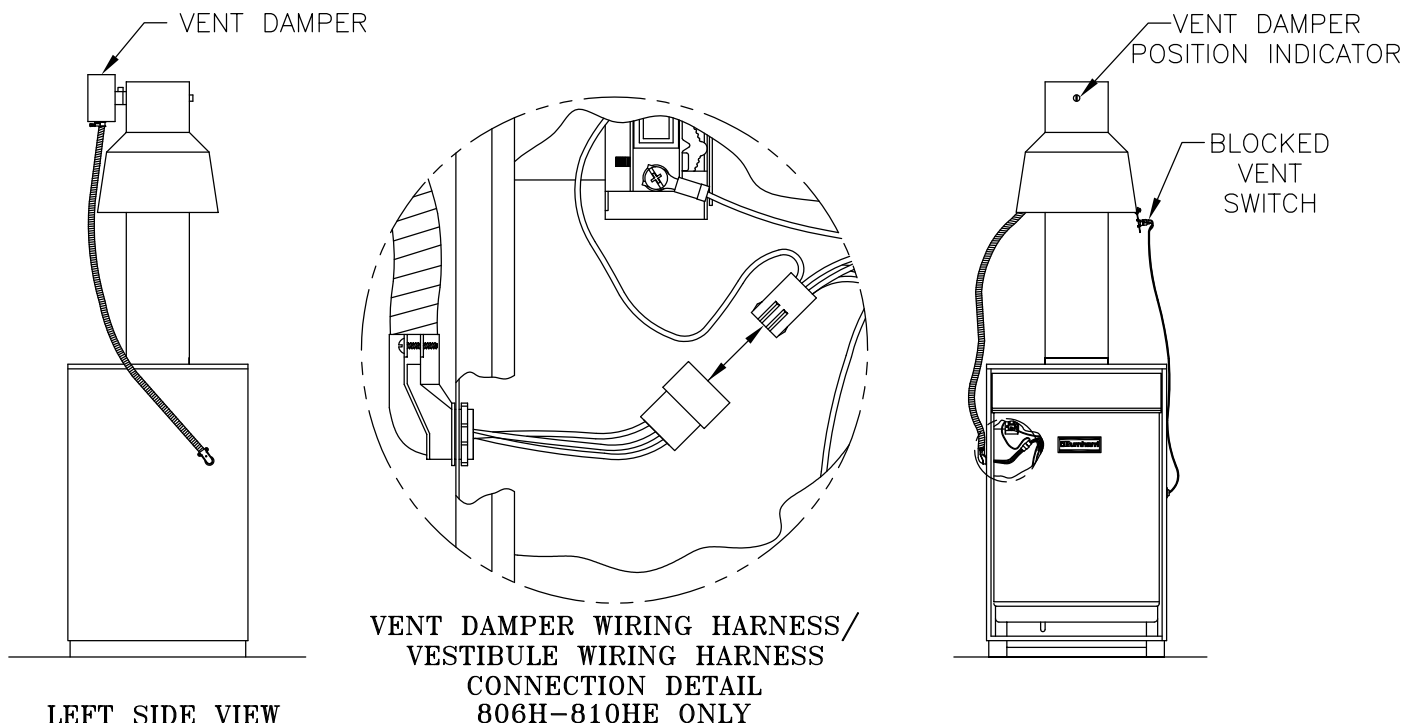

Figure 24: Vent Damper Installation
E. Boiler Equipped With Vent Damper. See Figure 24.
B. Wire Vent Damper (if used; optional on 806H - 810HE). See Figure 24. Vent damper harness for 805 plugs directly into Hydrostat 3200.
3. Plug Vent Damper Harness Plug into Vent Damper Receptacle. See Figure 24.